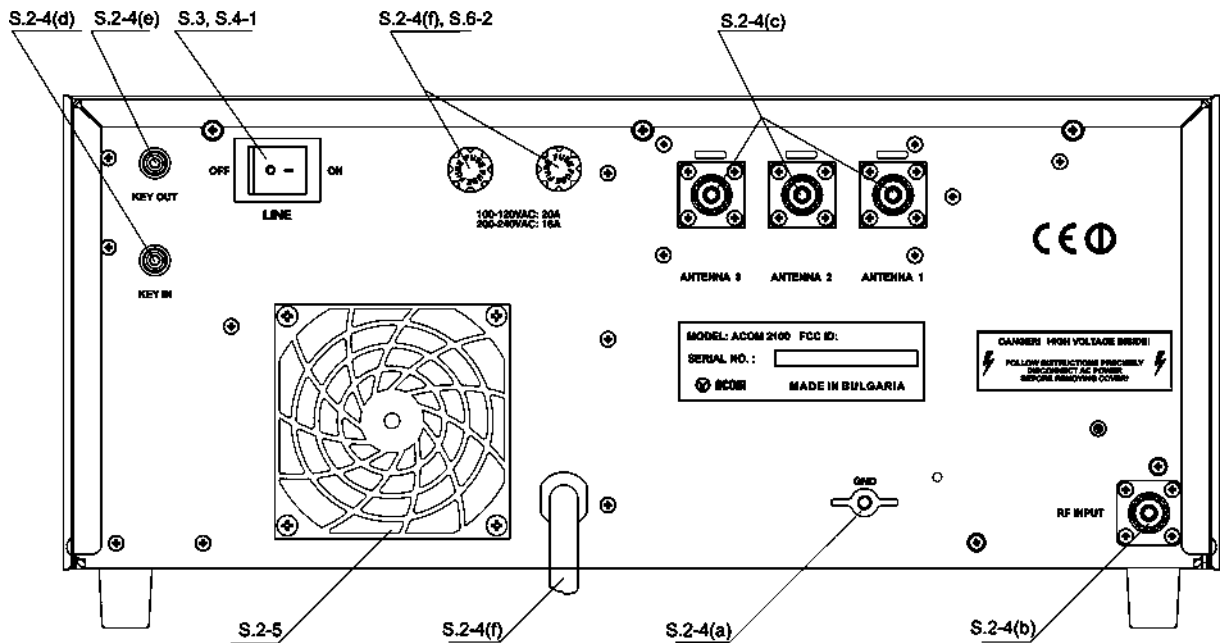
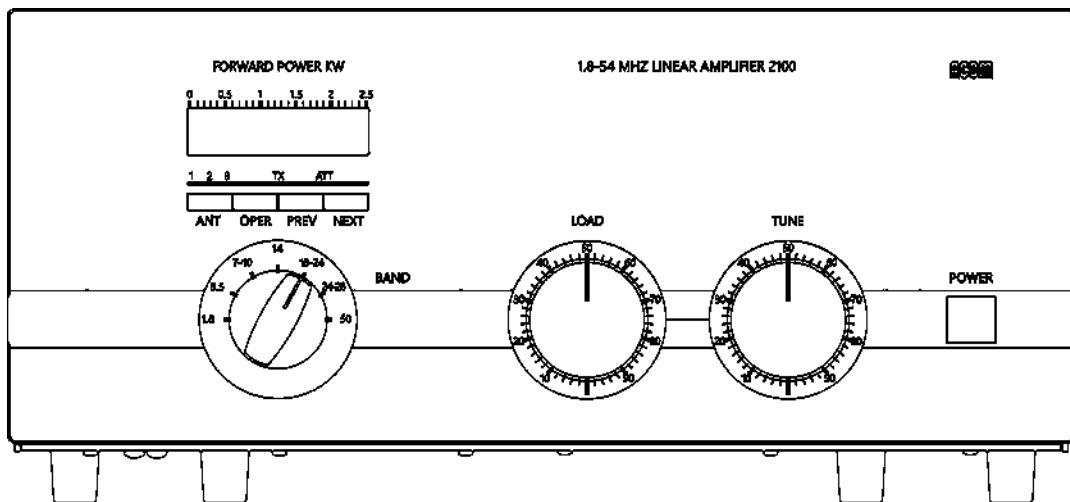

Fig. 2-1 Connections
Fig.3-1 ACOM2100 Display and Control
- a) First, connect the ground stud of the amplifier (on the rear panel, marked GND) to the station's grounding system (Fig.2-1).
This fan (Fig. 2-1) is not necessary in SSB and CW modes, or in continuous carrier modes (RTTY, SSTV etc.) with a maximum carrier-down time of 5 minutes and a subsequent pause of 3 minutes. For higher duty cycles such as continuous broadcast or increased ambient temperatures the fan is recommended. The auxiliary fan (92x92x25mm or 92x92x38mm) must be a brushless type, 2...5W/24VDC. It may be installed by your dealer or by the manufacturer on request.
After following all instructions in S.2, you may turn ON the main power switch marked "LINE" on the rear panel (Fig.2-1). The LED indicator above the red ON/OFF button located on the front panel must light red and an inscription "ACOM2100" will appear on the display (Fig.3-1):